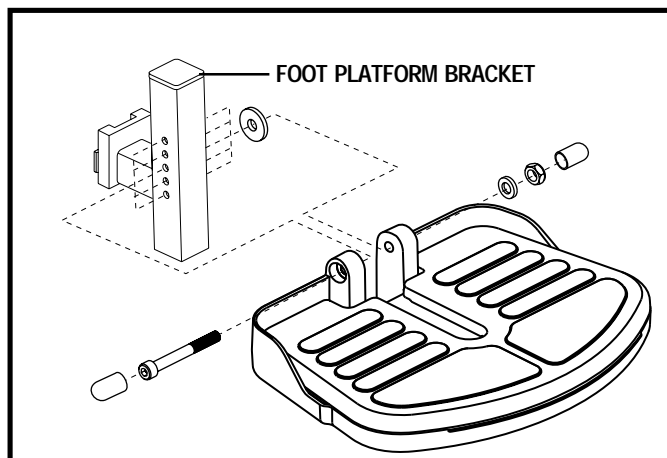

Figure 25. Foot Platform Height Adjustment
1. Remove the hardware from the foot platform bracket. See figure 25.